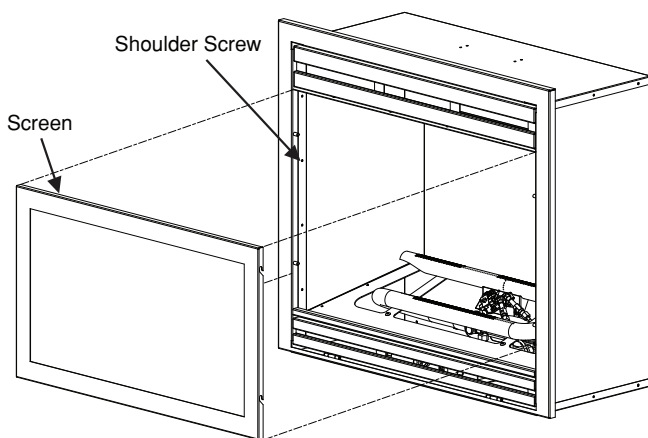

Fig. 2 - Removing and Installing Screen
1. If equipped, lift fireplace screen up and pull out to remove (See. Fig 2). Set screen aside until installation has been completed.